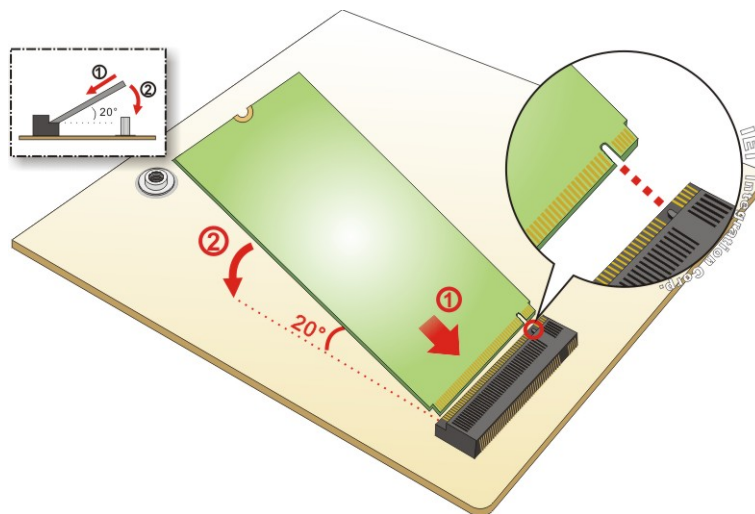

Figure 4-9: Inserting the M.2 Module into the Slot at an Angle
Step 3: Line up the notch on the card with the notch on the slot. Slide the M.2 module into the socket at an angle of about 20° (**Figure 4-9**).